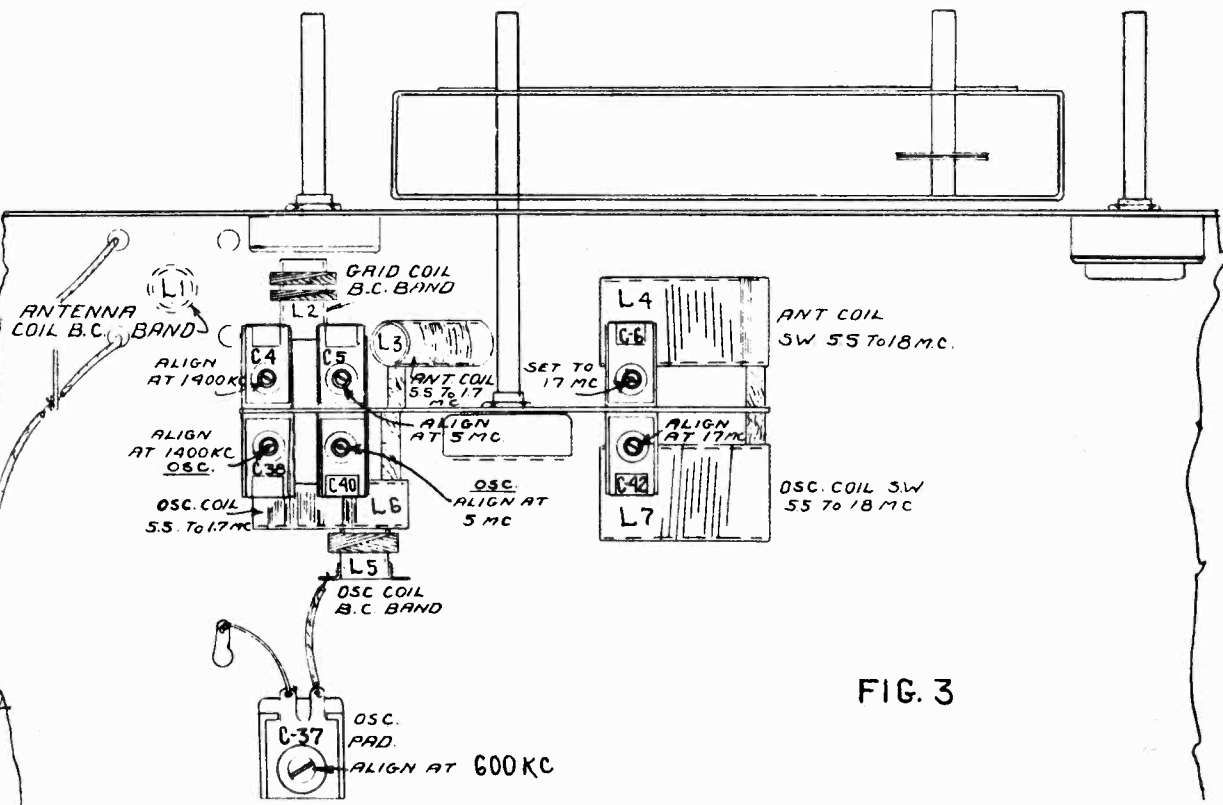

FIG. 3
2. Refer to Figure 3 and with a 17 M.C. signal from the generator, peak oscillator, trimmer condenser C-42 to 17 M.C.